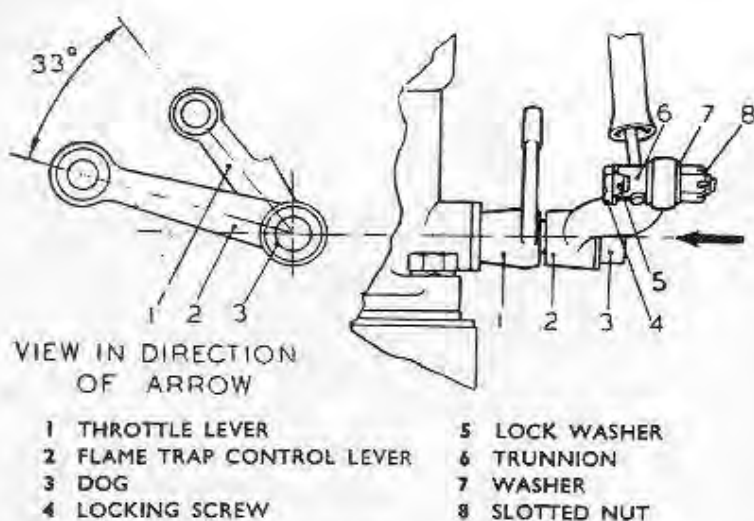

Fig. 3. Relationship of flame trap control lever to throttle lever
4. *Mk. 1 variants and Mk. 7 when Mod. G1483 has not been embodied.* Position the flame trap control lever and the dog on the throttle spindle as indicated in fig. 3. Drive in a new taper pin, Part No. AGS.859/12, check that the lever has the correct range of movement, and lock the taper pin by lightly riveting over its small end.